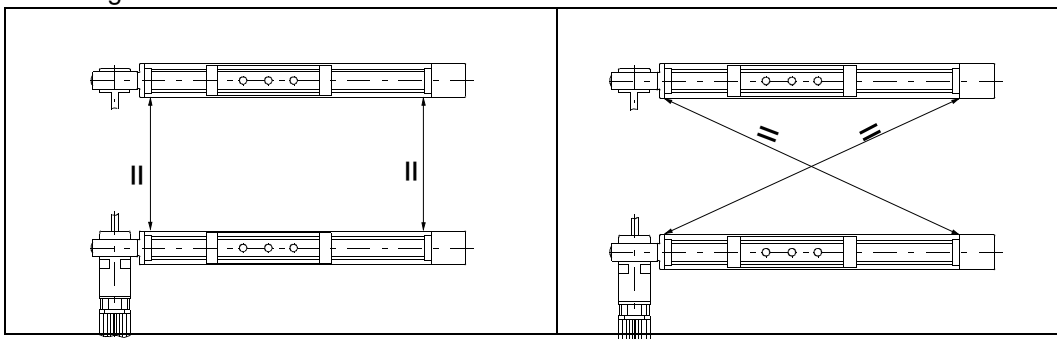

Figure 2: Aligning double axis unit
6. Measure for parallelism (tape measurer) [Figure 2 left].
7. Check squareness with diagonal measurement (tape measurer) [Figure 2 right]. If adjustment is needed, correct by moving non-driven axis.